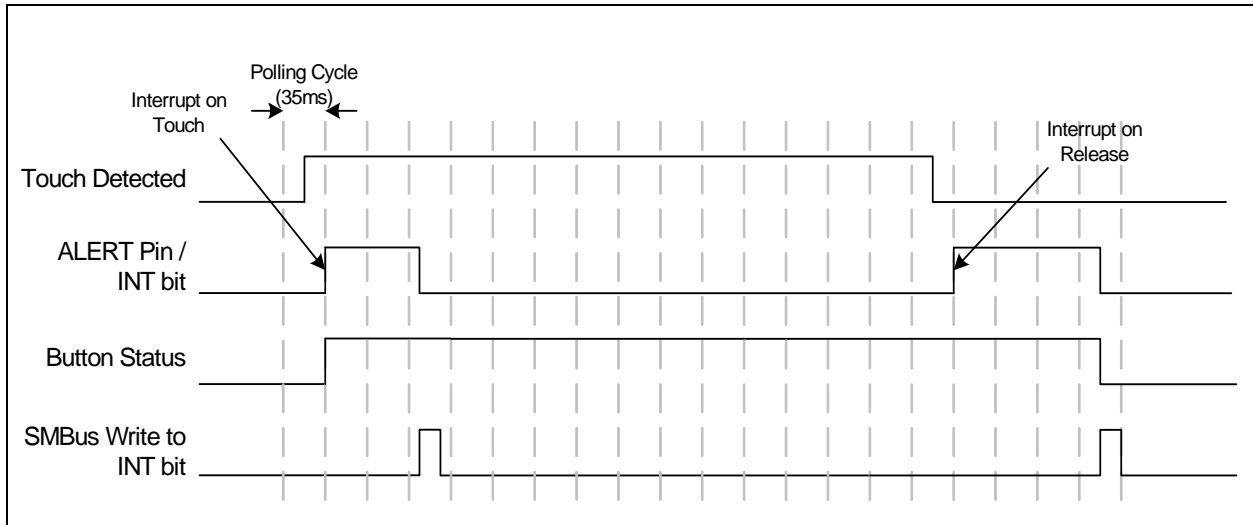

Figure 4.4 Sensor Interrupt Behavior - No Repeat Rate Enabled
1. An interrupt is generated when a touch is detected and when a release is detected (see Figure 4.4).